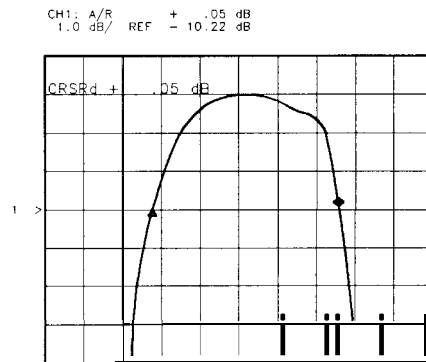
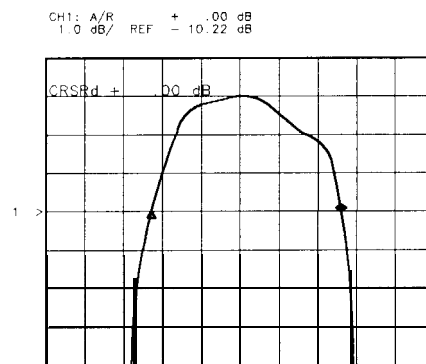

Figure 3-76. Typical Bandpass (SHIFT ↑)
Figure 3-77. Typical Bandpass (SHIFT ↓)
50. Adjust A23A3 Z1, Z2, Z3, and L2 for best bandpass shape and flatness at maximum amplitude of signal displayed on Scalar network analyzer. A typical properly-adjusted bandpass filter response is shown in Figure 3-76 and Figure 3-77. See Figure 3-73 for location of adjustments. The bandpass response should be ≥ 22 MHz.